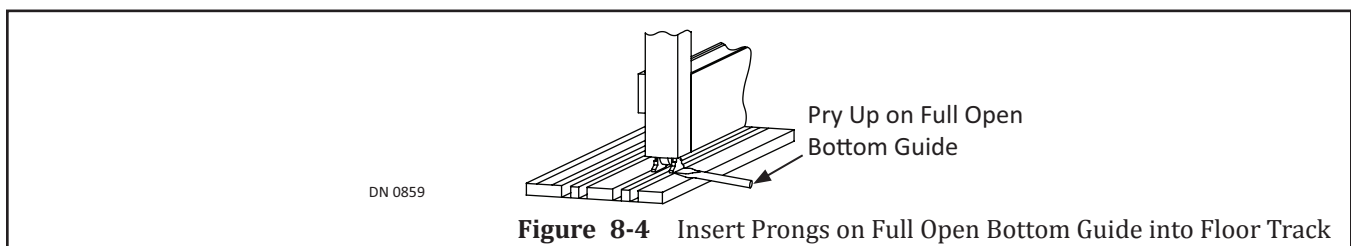

**Figure 8-2** Carrier with Rollers
1. Go to The Carrier located on Top Rail. Loosen nut on each Hanger Roller with a 1/2" open end Wrench. Please see Figure 8-2.